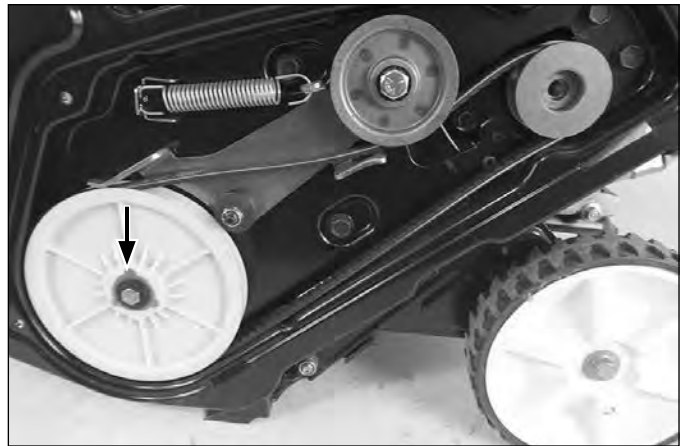

Fig. 022
9. Re-install the drive belt and rotor pulley. Torque the rotor pulley bolt to 8 ft-lbs (11 Nm) (Fig. 022).